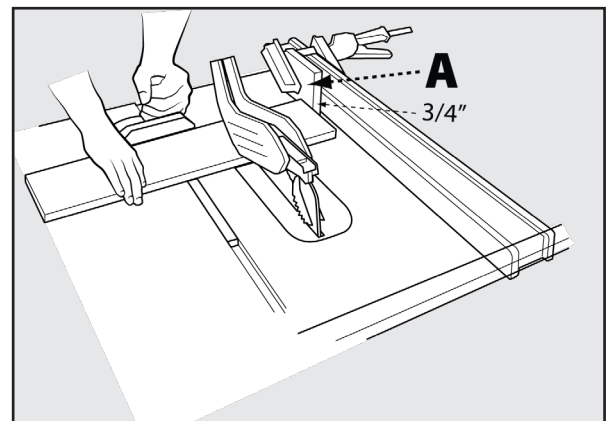

FIGURE 35
When crosscutting a number of pieces to the same length, you can clamp a block of wood (A) (See Figure 35) to the fence and use it as a cut-off gauge. The block (A) must be at least 3/4-inch (19 mm) thick to prevent the cut off piece from binding between the blade and the fence. Once the cut-off length is determined, lock the fence and use the miter gauge to feed the workpiece into the blade.